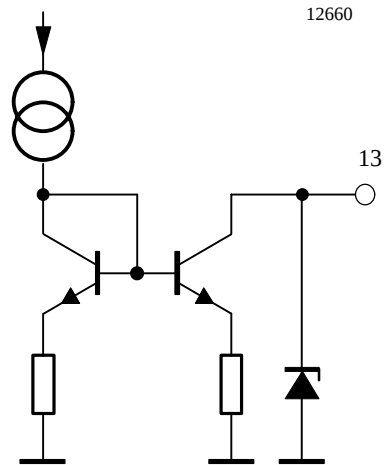

Figure 13. Pin 13 SW_{out}
1) Measured at Pin 9, (12) referred to 330 Ω
2) Protected by a Z-diode, see figure 13